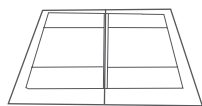
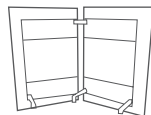

Figure 1A
Figure 1B
- 1 Carefully place the base flat (Figure 1A) or in a clamshell position (Figure 1B).